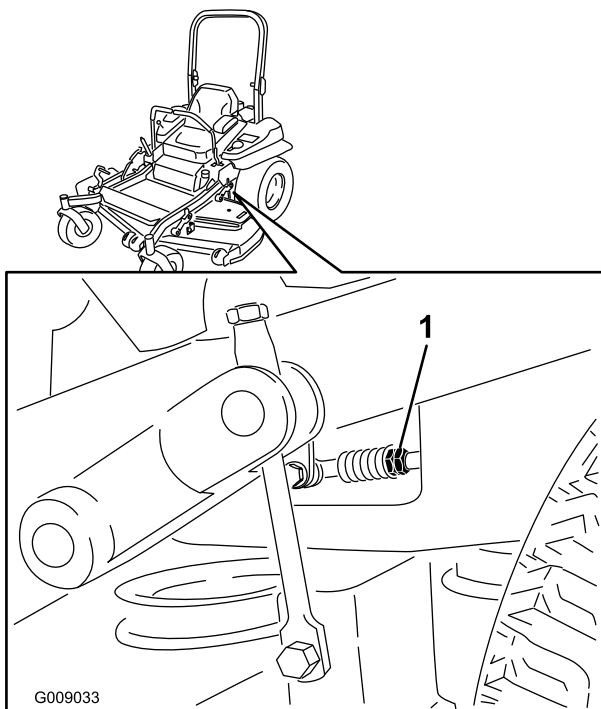

Figure 93
11. Adjust the pump control rod lengths by rotating the double nuts on the rod in the appropriate direction until the wheels slightly creep in reverse (Figure 93).